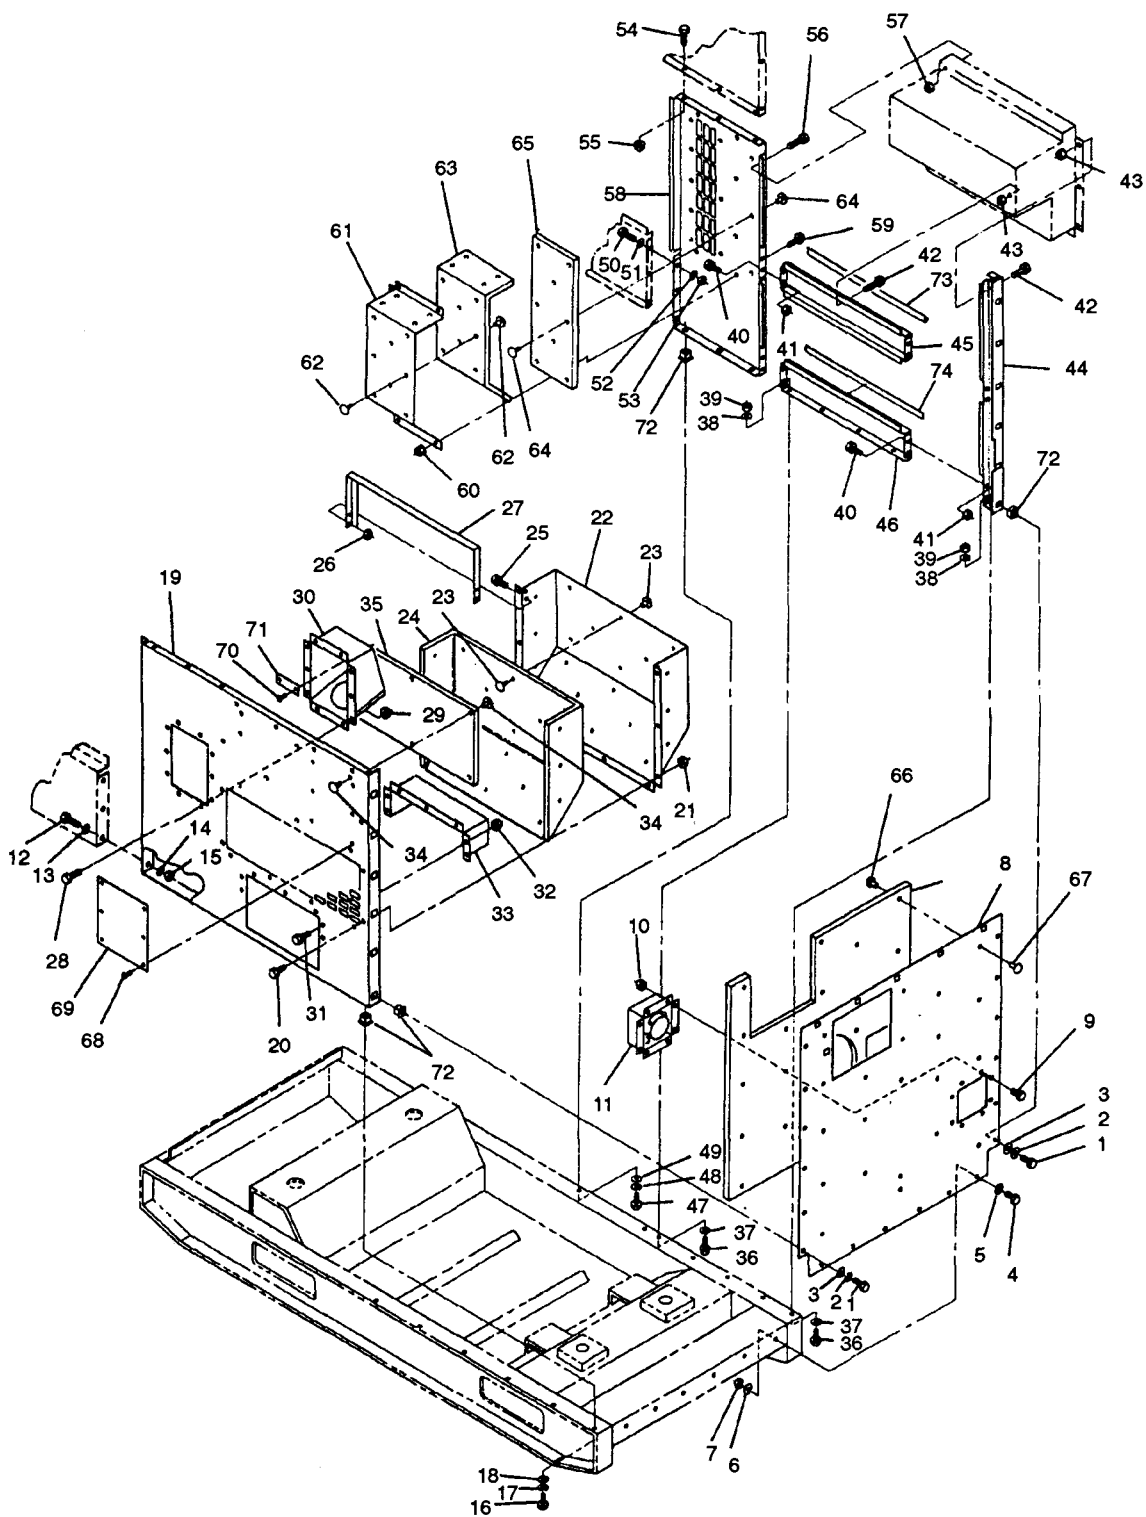

FIGURE 2-9. Generator Set Rear Housing Section
- k. Remove bolts (1 and 4, FIGURE 2-9), flatwashers (3) and (5), lockwashers (2) and (6), nuts (7), and rear panel (8) from generator set.
- l. Remove bolts (9), assembled nuts (10), and load cable entrance box(11) from panel (8).
- m. Remove bolts (12) and (16), flatwashers(13) and (18), lockwashers(14) and (17), nuts (15), and left side rear panel (19) from generator set.
- n. Remove bolts (20), assembled nuts (21), and baffle (22) from panel (19).
- o. Remove clip halves (23) and insulation (24) from baffle (22).
- p. Remove bolts (25), assembled nuts (26), and stiffener (27) from baffle (22).
- q. Remove bolts (28), assembled nuts (29), and fuel filler neck panel (30) from panel (19).
- r. Remove bolts (31), assembled nuts (32), and document box (33) from panel (19).
- s. If necessary, remove clip halves (34) and insulation (35) from panel (19).
- c. Inspect all cage nuts (72, FIGURE 2-9) for cracking or stripped threads.
- e. Inspect EMI seals (73) for tears, looseness, and deterioration.
- f. Inspect door seals (74) for tears, looseness, and deterioration.
- c. Repaint surfaces in accordance with TM 43-0139. (F) Use applicable directives.
- d. Replace all cracked or stripped cage nuts (72, FIGURE 2-9).
- f. Replace EMI seals (73) that are loose or show any evidence of damage.
- g. Replace damaged door seals (74).
- a. If removed, install plate (71, FIGURE 2-9) on fuel filler neck panel (30) with rivets (70).
- b. If removed, install plate (69) on side panel (19) with rivets (68).
- c. If removed, install insulation (65) on panel (58) with clip halves (64).
- d. If removed, install insulation (63) on baffle (61) with clip halves (62).
- e. Install baffle (61) on panel (58) with bolts (59) and assembled nuts (60).
- f. Install right side panel (58) on generator set with bolts (47), (50), (54), and (56); flatwashers (49) and (51); lockwashers (48) and (52); nuts (53); and assembled nuts (55) and (57).
- g. Install door sills (45) and (46), and corner post (44) on generator set with bolts (36), (40) and (42); flatwashers (37); lockwashers (38); nuts (39); and assembled nuts (41) and (43).
- h. If removed, install insulation (35) on panel (19) with clip halves (34).
- i. Install document box (33) on left side rear panel (19) with bolts (31) and assembled nuts (32).
- j. Install fuel filler neck panel (30) on left side rear panel (19) with bolts (28) and assembled nuts (29).
- k. Install stiffener (27) in baffle (22) with bolts (25) and assembled nuts (26).